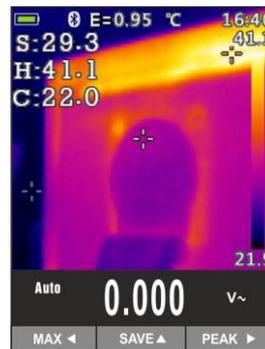

Fig. 45: Salvataggio immagine IR
9. Press key **HOLD/REL** to freeze the result. Message “HOLD” and **SAVE ▲** key appears on the display (see Fig.45)